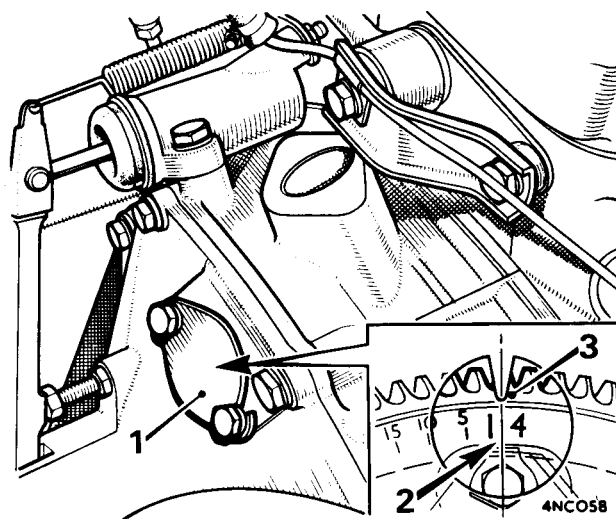
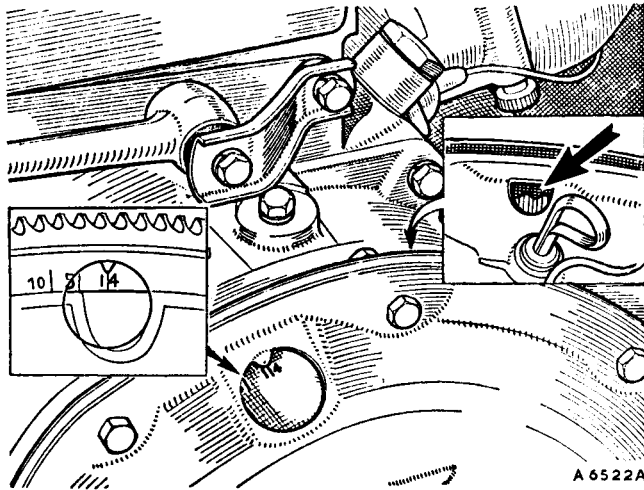

Fig. B.6
Fig. Ba.1
1. Remove the cover or grommet from the timing inspection aperture in the clutch/converter cover. Use a mirror to see the timing marks on the flywheel/converter, see Fig. B.6 or Figs. Ba.1/Ba.2 (Automatic). Rotate the crankshaft in the direction of engine rotation until the correct static timing mark (see 'ENGINE TUNING DATA') is opposite the timing mark pointer in the inspection aperture.
2. To rotate the crankshaft, insert a screwdriver through the aperture (adjacent to the oil dipstick) on the converter housing or end cover, and turn the starter ring gear in the direction of engine rotation to the position described in Section B.2, item 5.
3. The timing marks can be seen on the converter (Figs. Ba.1 and Ba.2) after removal of the rubber grommet on the converter end cover.